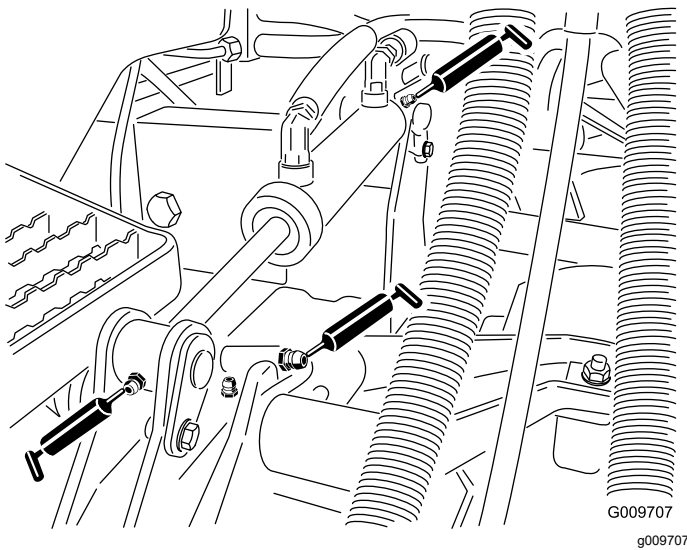

Figure 46
- Lift-arm bushings (1 per cutting unit) as shown in Figure 46
- Lift-cylinder bushings (2 per cutting unit) as shown in Figure 46